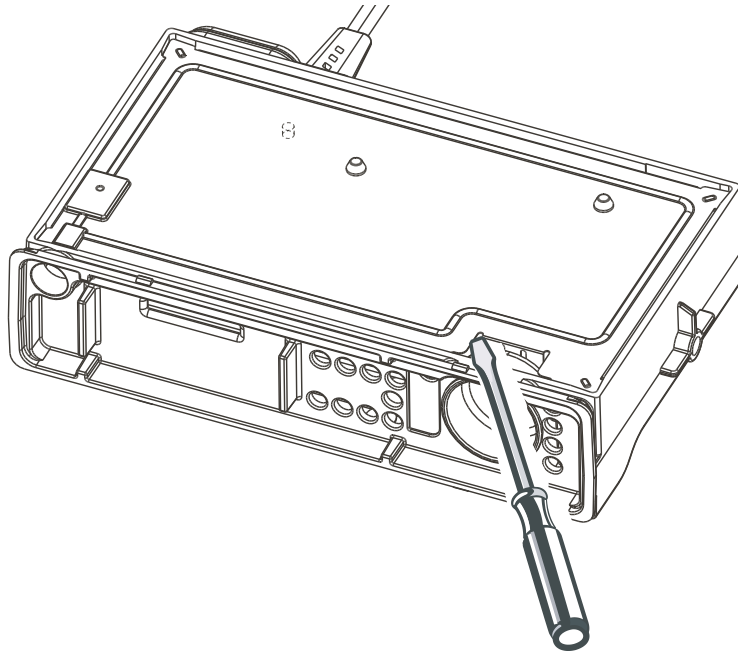

Figure 2-6 Main Shield Removal
1. Insert the screw driver in the gap between the main shield and chassis (speaker cutout area) and push the shield up. See Figure 2-6.